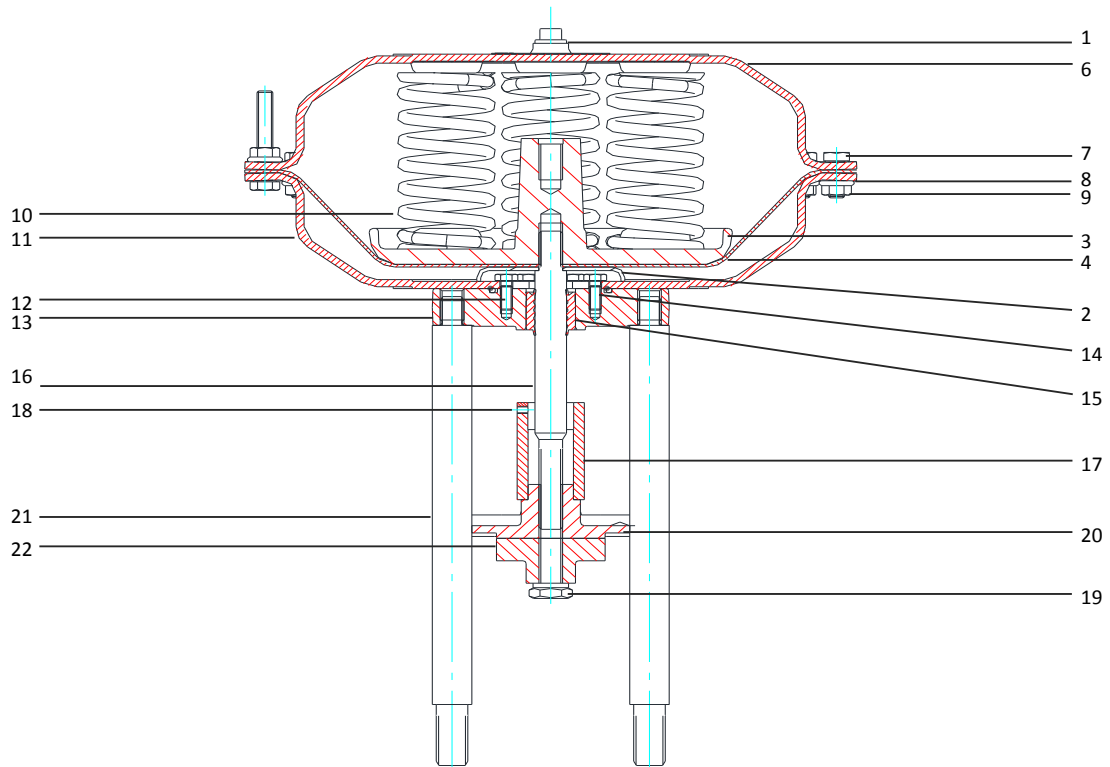
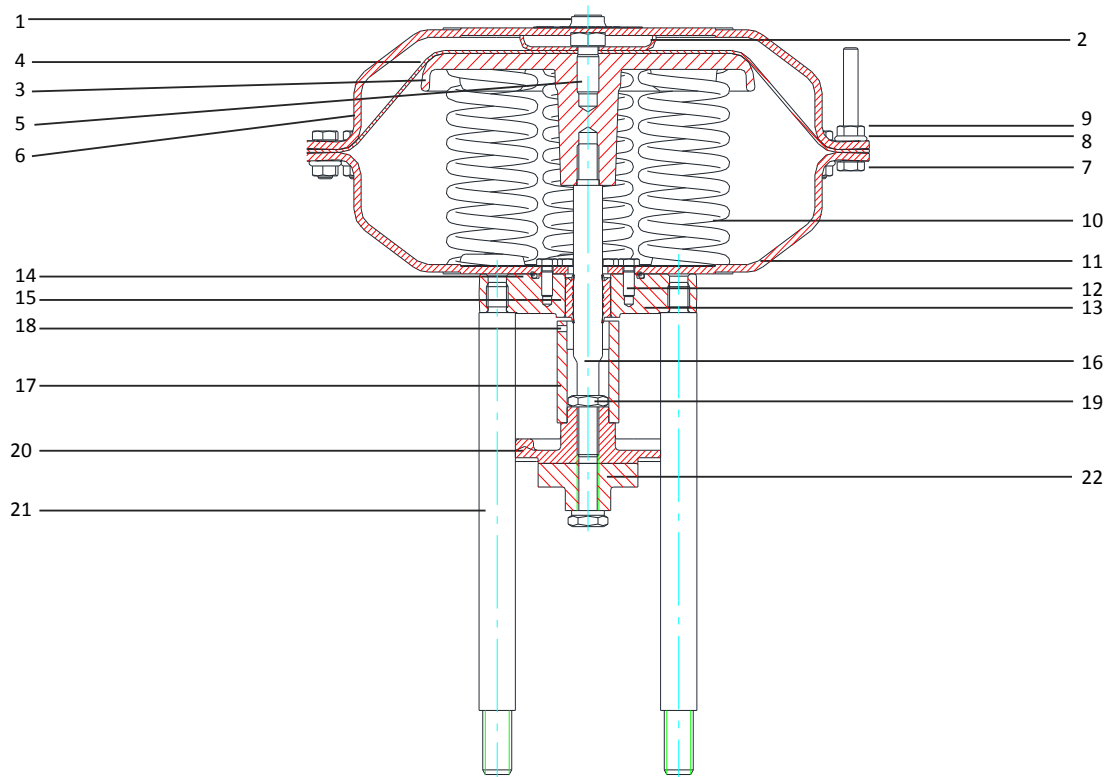

Figure 33: Reverse Acting (Spring Close)
Figure 34: Direct Acting (Spring Open)
Loosen the set screw (18) on the arrester (17) then loosen the nut (19). Remove the pillars (21). With the use of a locknut (tighten two nuts against each other, then by unscrewing the bottom one the pillar can be removed) (refer to Figure 33 and Figure 34).
Using a vernier caliper measure the distance between the underside of the parallel guide (20) and the end of the actuator stem (16) this distance must be noted for readjustment later. Loosen and remove the nut (19), parallel guide (20) and the arrester (17). Mark the upper (6) and lower casings (11) for reassembly later (refer to Figure 33 and Figure 34).
Remove the regular casing bolts (7) gradually, alternately loosen the nuts on the remaining long casing bolts (7) to allow decompression of actuator springs (refer to Figure 33 and Figure 34).
Remove upper casing (6) then remove the springs (10). Take out the diaphragm assembly (consisting of diaphragm (4), actuator stem (16) diaphragm ring (2) and diaphragm plate (3)). Clamp the diaphragm plate in a vice and unscrew the actuator stem (16) with the use of a locknut (refer to Figure 33 and Figure 34).
Remove the old diaphragm and replace with a new one. Place the diaphragm plate (3) on the new diaphragm, then turn the diaphragm over and place the diaphragm ring (2) on the other side, apply Loctite 270 to the thread on the actuator stem (16) then screw this into the diaphragm plate (3) by hand (refer to Figure 28, Figure 33 and Figure 34).
Unscrew the 3 bolts (12) fastening the connection flange to the lower casing (11). Remove the seal (14) from the connection flange and replace with the new seal (refer to Figure 33 and Figure 34). Place the lower casing over the connection flange (paying attention that the holes line up) Apply Loctite 270 on the thread of the 3 bolts, then tighten them with torque 11.8 ft-lbs (16 Nm).
Remove upper casing (6). Take out the diaphragm assembly (consisting of diaphragm (4), actuator stem (16), diaphragm ring (2) and diaphragm plate (3)), then remove the springs (10). Clamp the diaphragm plate in a vice and unscrew the diaphragm ring bolt (5) clamping the diaphragm between the diaphragm plate and the diaphragm ring (refer to Figure 33 and Figure 34).
Remove the old diaphragm and replace with a new one. Place the diaphragm plate (3) on the new diaphragm, then turn the diaphragm over and place the diaphragm ring on the other side, apply Loctite 270 to the thread on the bolt then screw this into the diaphragm plate by hand (refer to Figure 29, Figure 33 and Figure 34).